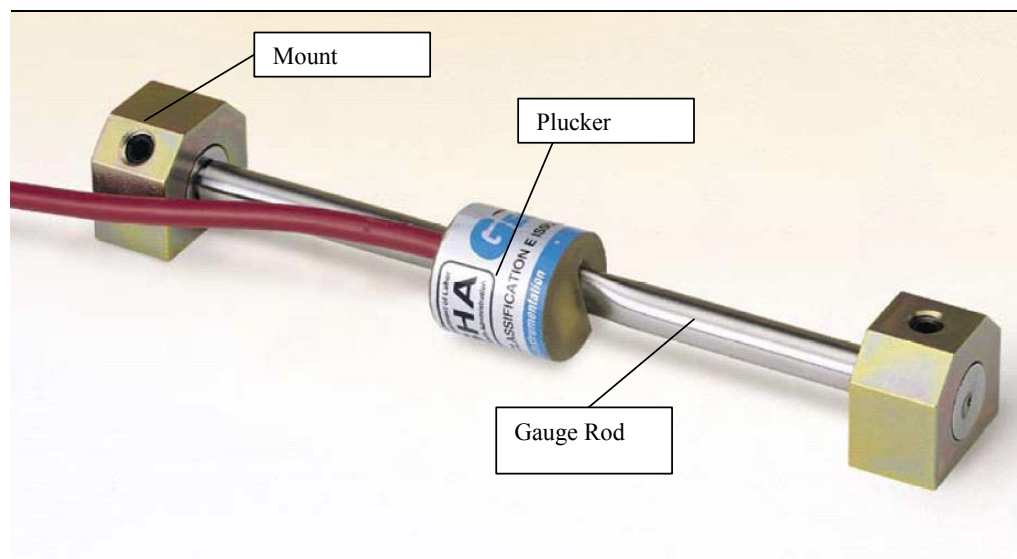

Figure 5.1 - Geokon model 4000 strain gage
Strain was measured using arc weldable vibrating wire (VW) strain gages manufactured by Geokon Inc. like the one shown in figure 5.1. The gages were installed in tension-compression pairs on the flanges of the sheet piles, as shown in figure 5.2, at regular intervals of length. The mounts were welded using a gauging block and blank. After the mounts cooled, the gage was inserted into the mounts and set at the appropriate amount of pre-strain by stretching or compression before locking with set screws. The “plucker” which causes the wire to vibrate, and measures the frequency, was slipped over the gage and secured with a hose clamp. When all of the gages and pluckers were attached to the pile, the gages were covered with steel angle to protect them from damage during pile driving. The strain was recorded using a pair of Campbell Scientific CR1000 dataloggers.